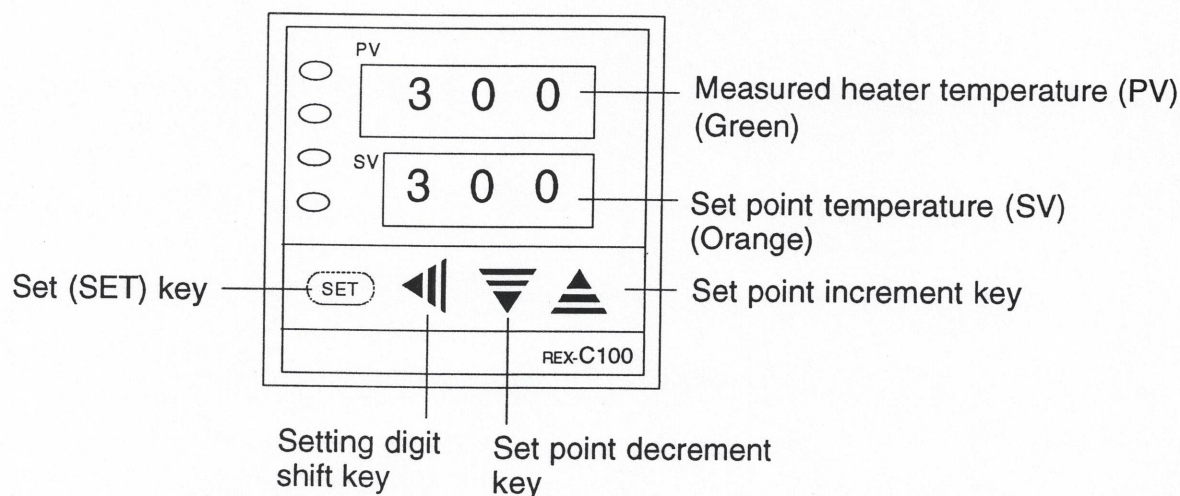

Figure 3.2. Substrate heater temperature controller front panel.
b. Referring to Fig. 3.2 which shows the front panel of the temperature controller, set the desired substrate temperature as follows.
2. Press the setting digit shift key (left facing arrow key) to select the desired digit of the set point (SV) to adjust. The highlighted (bright) digit will move from right to left each time the key is pressed.
4. Repeat steps 2 and 3 until the desired set point value is shown in the digital display (SV).